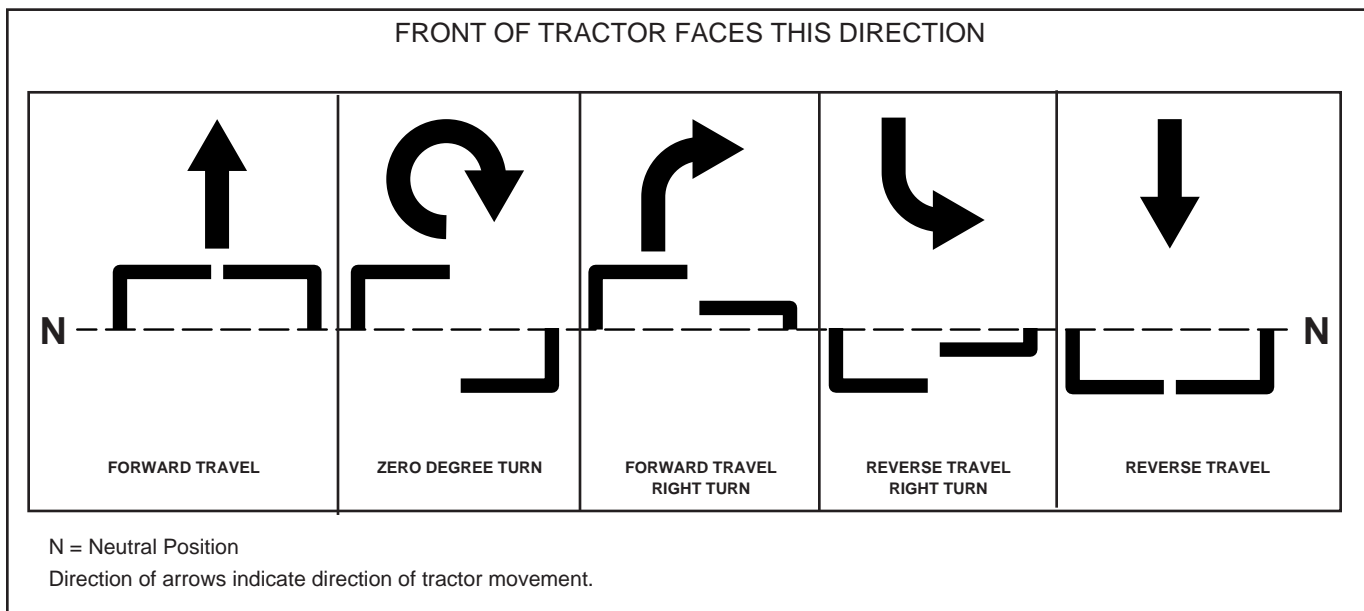

Figure 3-6
**To go forward,** push control levers forward an equal distance (Fig. 3-6).
**To go in reverse,** pull control levers rearward an equal distance (Fig. 3-6).
**To turn left,** move the right control lever farther forward from neutral than the left control lever.(Fig. 3-6)
**To turn right,** move the left control lever farther forward from neutral than the right control lever. (Fig. 3-6)
**Zero degree turn,** move one control lever forward and the other control lever back of neutral. This will allow the drive wheels to counter-rotate. (Fig. 3-6)